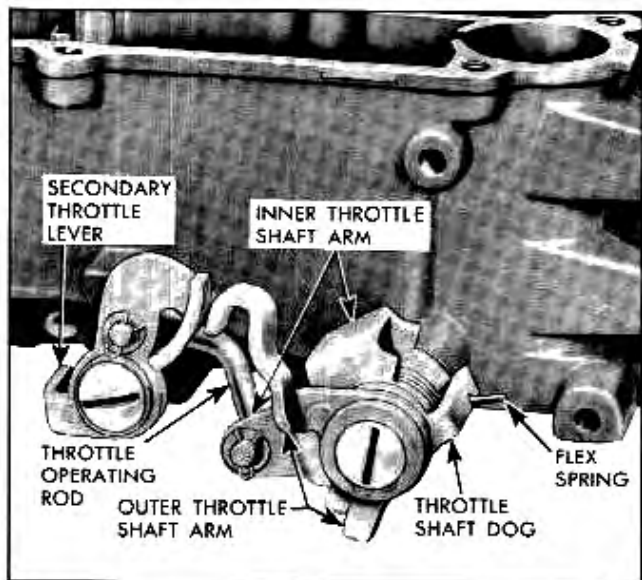

Fig. 6B-79 Primary and Secondary Throttle Linkage
18. Remove fast idle cam attaching screw, fast idle cam, spacer and lockout lever. (Fig. 6B-78).
19. Remove primary to secondary throttle operating rod. (Fig. 6B-79).
20. Remove screw, secondary throttle shaft washer and secondary throttle operating lever and spring. (Fig. 6B-79).